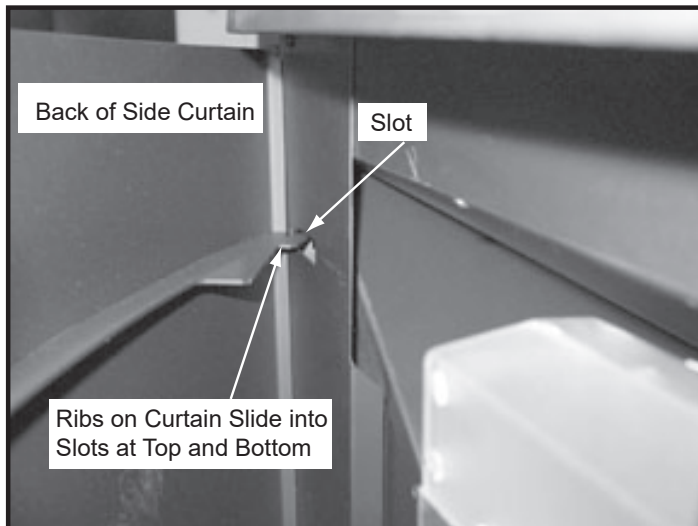
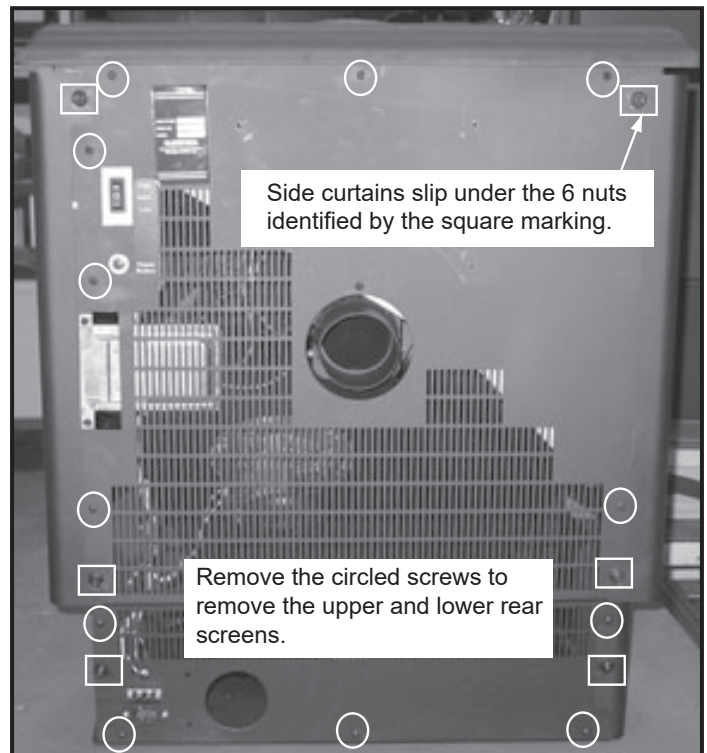

Figure 26.1
Figure 26.3
- Remove the right upper and lower side curtains by loosening 7/16" nut in the back and lift off of the appliance. When re-installing flex curtain to re-attach (**Figure 26.1**).
- Remove both upper and lower side curtains (**Figure 26.1**). Remove the upper and lower rear curtains (**Figure 26.3**).
4. Remove cast top from appliance. Two fasteners are located outside the hopper on each side. The other two are located in the hopper along the back (**Figure 26.1**). Remove the rear screen of the appliance (be sure the vent is disconnected) by removing the seven screws. Lift slightly upwards as to not damage the hopper switch and set aside.